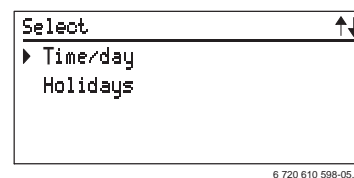

Fig. 39 Submenu: Time/day
- Press the  button to confirm the setting and return to the previous menu (fig. 39 page 26).